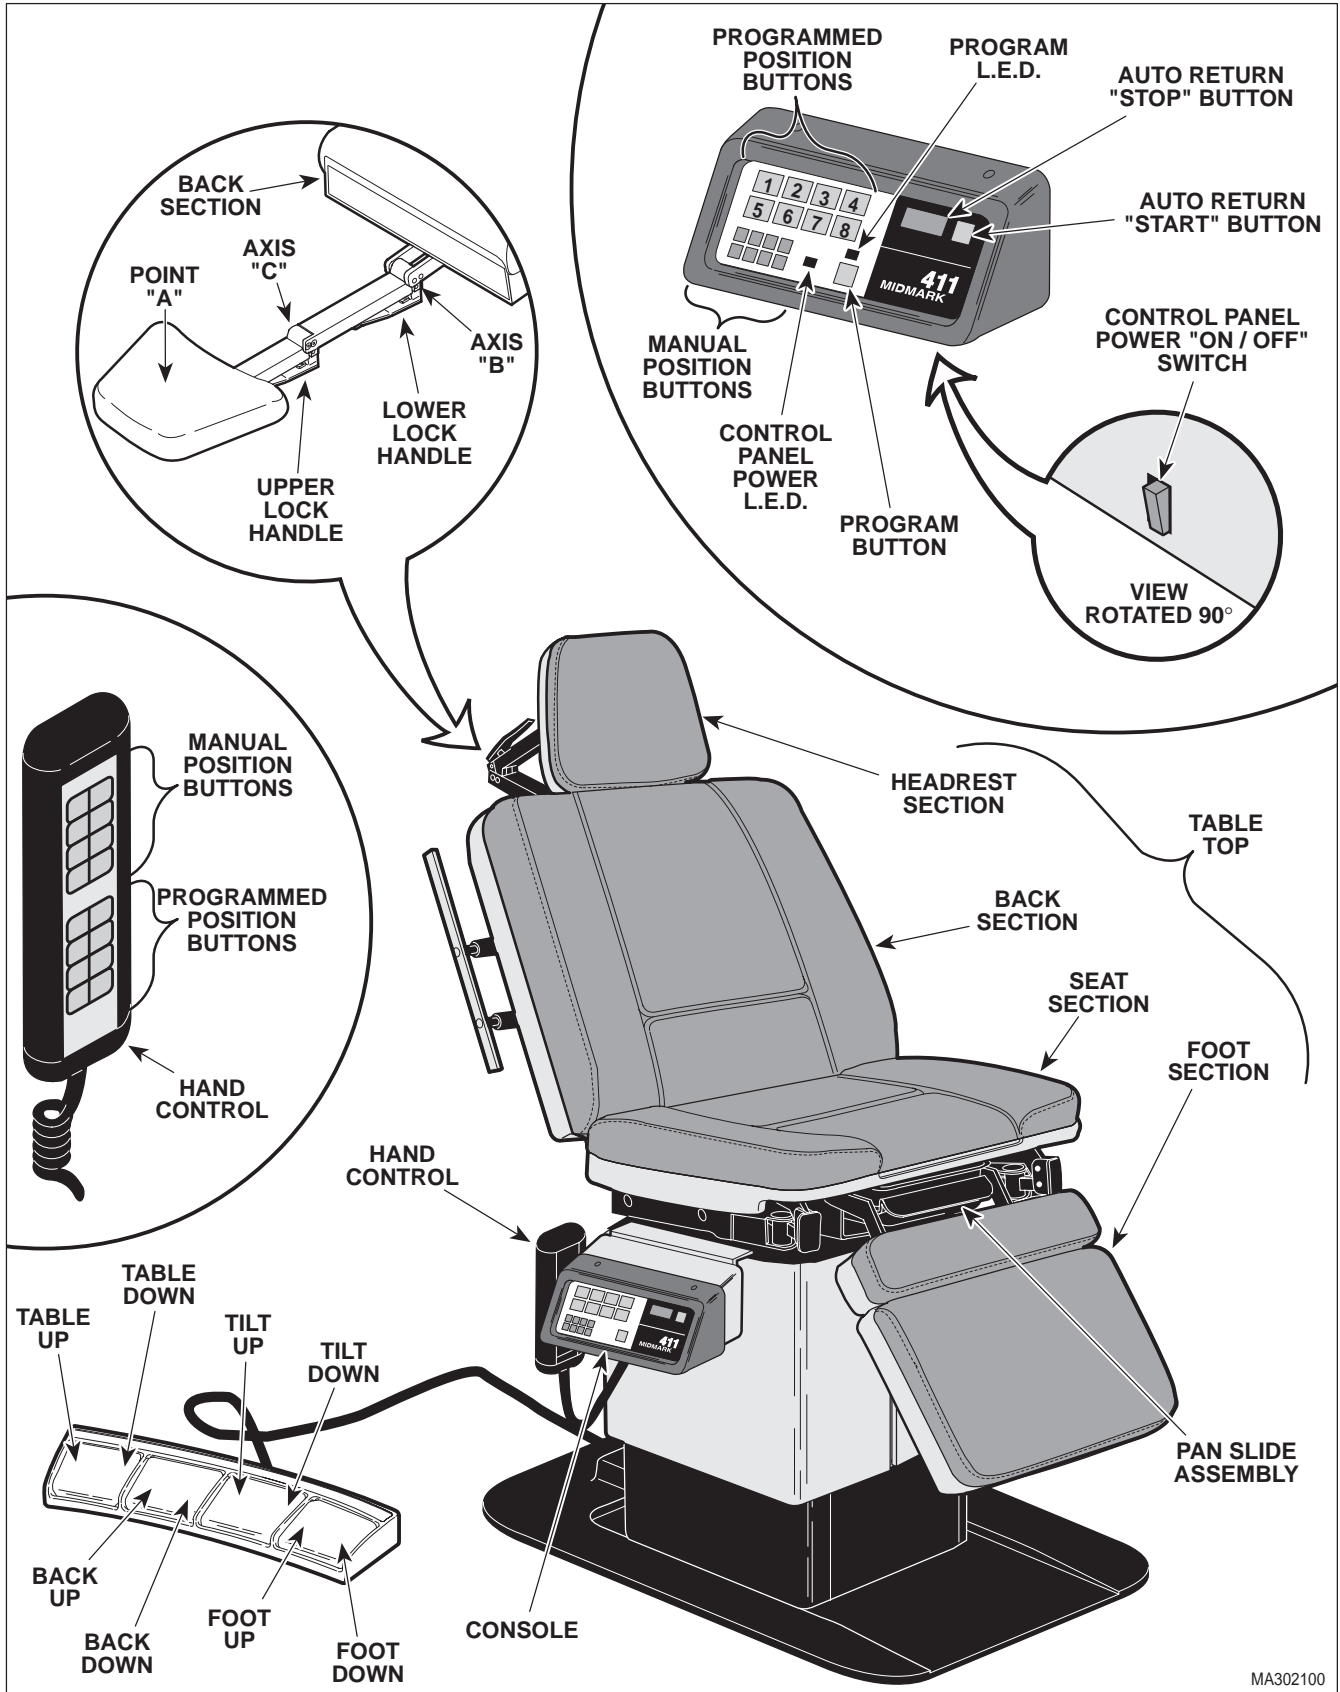

Figure 2-1. Operational Test
2.1 Operational Test (See Figure 2-1)
- (1) Plug the table into a grounded, non-isolated, correctly polarized outlet, that has the proper voltage output for the table. See Figure 2-1.